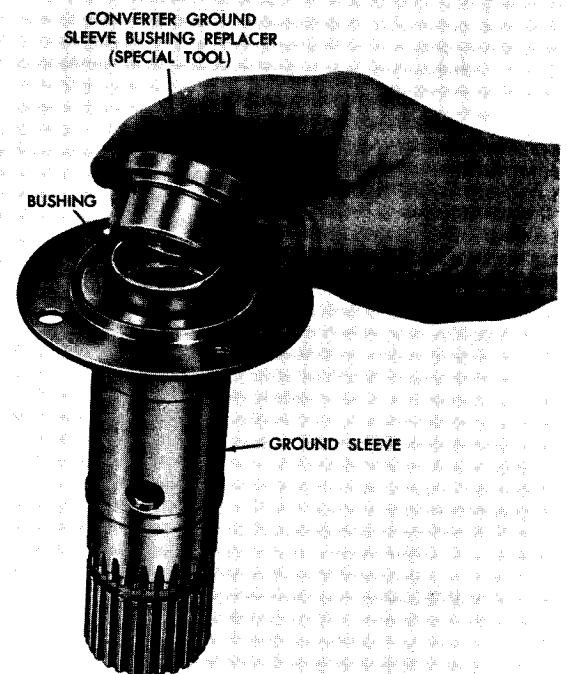

Fig. IX-10 Installing converter ground sleeve bushing
(1) If the converter ground sleeve bushing was removed from the converter ground sleeve, use a press and ground sleeve bushing replacer and install the new bushing in the converter ground sleeve (fig. IX-10).
(2) If converter ground sleeve 29 was removed, use two 5/16-18 guide bolts and install the converter ground sleeve, properly aligned, into converter housing 40.
(3) Install four self-locking bolts 32.